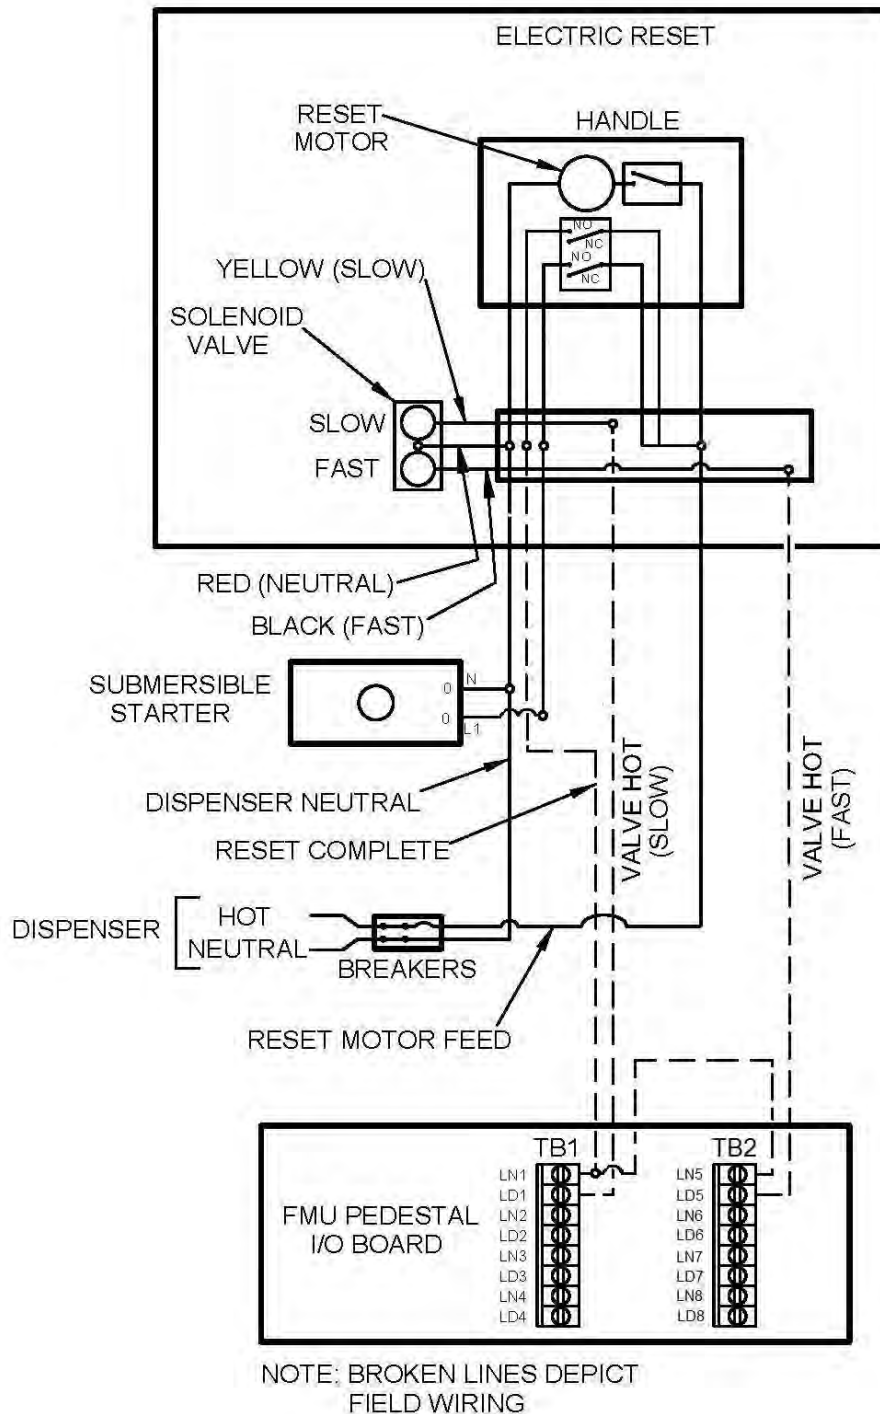

Figure 4-12. Wiring Diagram – Two-Stage Valve Control
- g. **Two-Stage Valve Control.** See Figure 4-12. Two-stage valve control is a control method for separately controlling the fast and slow stages of a two-stage valve. Two-stage valve control is used 1) to ensure preset quantities or costs are not exceeded, and 2) to reduce shutdown pressure at the end of the transaction in systems with high flow rates.
Figure 4-12 shows one output from the dispenser reset mechanism powering both valves. Some dispensers/dispensing systems will have two outputs, one for each stage of the valve. Dispensers with separate outputs to each valve stage may be influenced by CPU programming. If possible, use the output to the slow stage. The slow stage remains active from start to finish in each transaction. The FMU will use its programming to shut off the fast stage.